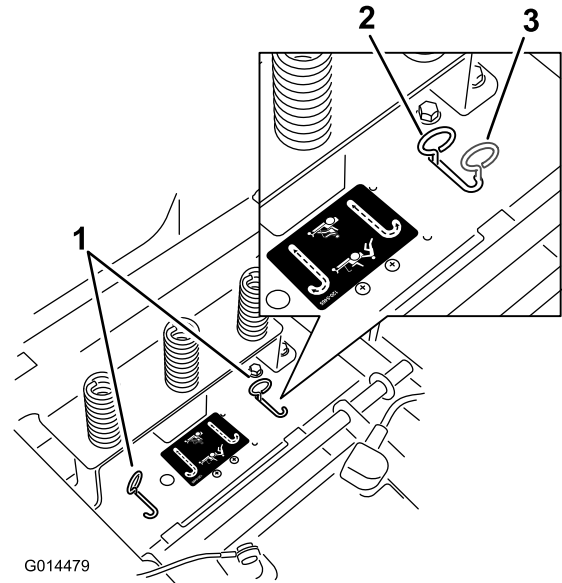

Figure 25
4. Move the bypass levers forwards and then out to lock them in place as shown in Figure 25 to disengage the wheel motors. Repeat this for each lever.
Move the bypass levers inward and push them back in the horizontal slot (Figure 25) to engage the wheel motors.